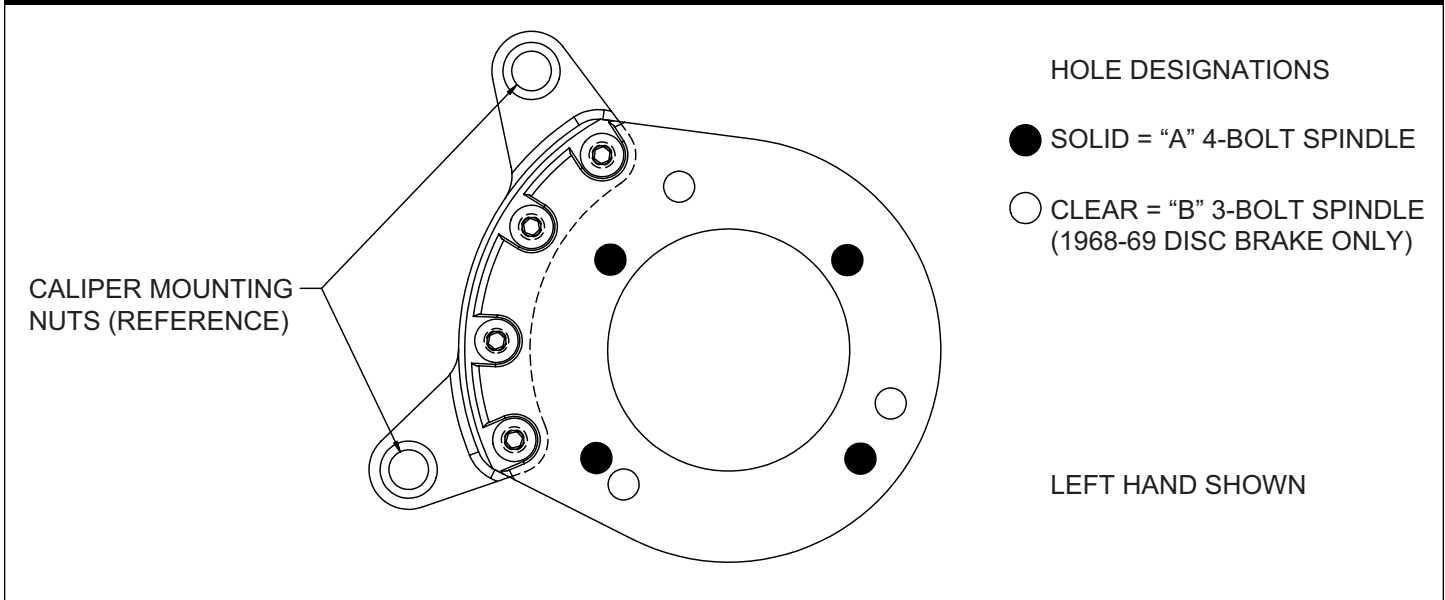
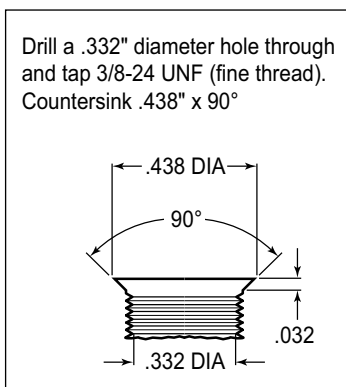

Figure 1. Wilwood Caliper Mounting Bracket
Figure 2. Drill and Tap Detail
This kit has been designed for use with both the disc brake or the drum brake configuration of vehicle. The only difference is in how the Wilwood caliper mounting bracket is installed. The same bracket is used for both configurations; the disc brake version utilizes three mounting holes while the drum brake application uses four mounting holes (see Figure 1). For your convenience we have supplied bolt kits for both applications (see parts list and Figure 4 as necessary). Use the bolt kit that is applicable to your vehicle and disregard the other one.
NOTE: This modification should be performed by a qualified machinist and completed before assembly of the Wilwood disc brake kit begins. Using the caliper mounting bracket as a template (refer to Figure 1 as necessary), locate and verify the three original holes on the spindle that need to be modified. Drill a .332" diameter hole through all three holes, then tap 3/8-24 UNF (fine thread). Countersink the holes to .438" diameter x 90°, as shown in Figure 2.
NOTE: This kit uses the same mounting bracket (1) for both the three and four bolt brake spindles. The 4-bolt version, Photo 1, uses four mounting bolts (designated "A"), while the 3-bolt version, Photo 2, uses three (designated "B"). Refer to Figures 1 and 4 for the basic installation position of the bracket and the "A" and "B" reference designations (not physically marked on the brackets).